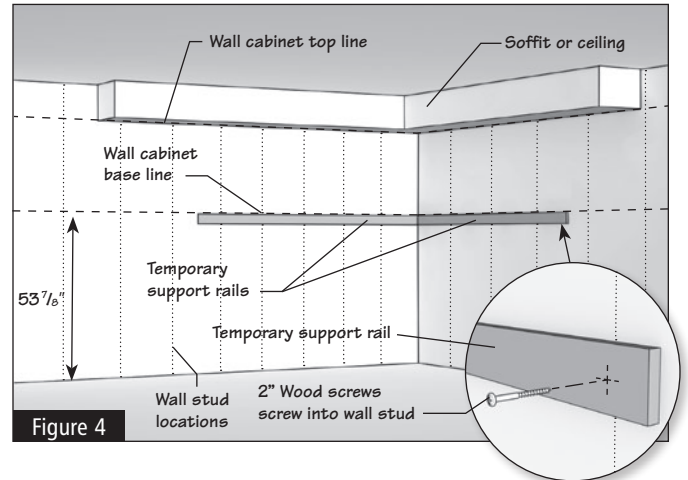

Figure 4
- 1.5** Using the 1 x 2 or 1 x 3 furring strips, screw a support rail into the studs with 2" wood screws below the baseline you have drawn for the wall cabinets. This will help support the weight of the wall cabinets, and give you something to rest the cabinets on when installing them. Make sure your support rail (sometimes called a cleat or ledger board) is level. (Figure 4)